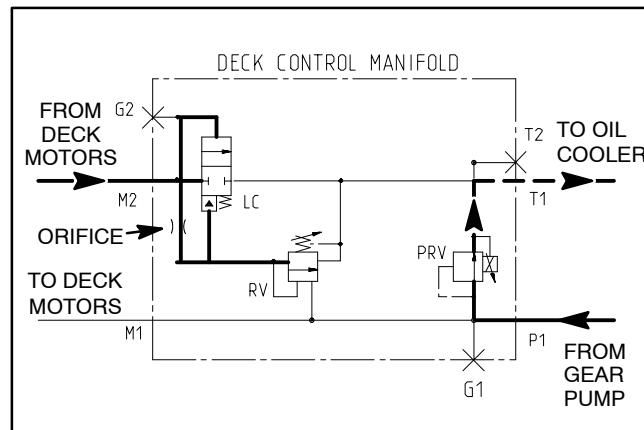
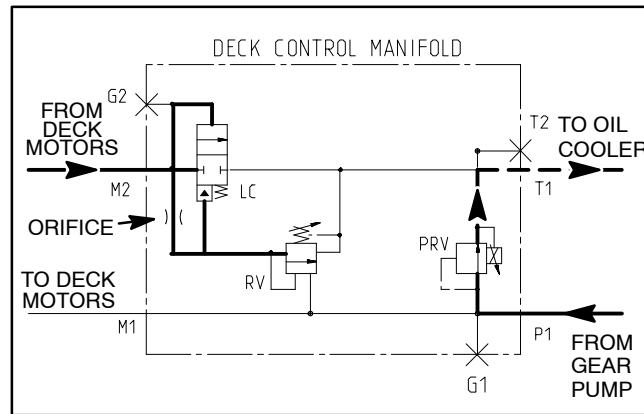

Figure 15
Figure 16
When the operator turns the cutting decks OFF, proportional relief valve (PRV) shift occurs in the deck control manifold (Fig. 15). This shifted valve allows oil return to the oil cooler and gear pump. Hydraulic pressure is reduced to the cutting deck motors which begins to slow the cutting blades and also allows the manifold relief valve (RV) to shift. (Fig. 16).
The inertia of the rotating cutting blades increases pressure of the oil return to the deck control manifold. This pressure increase along with the orifice in the manifold and the shifted relief valve (RV) cause logic cartridge (LC1) to shift (Fig. 16). The oil from the deck motors is finally directed through the orifice and to relief valve (RV) which bleeds the residual pressure in the circuit and allows the blades to stop in a controlled manner (Fig. 17).